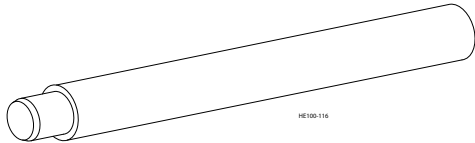

Figure 23 - Head Removal Tool
- Head Removal Tool (HRT), part number LL121191. (See Figure 23.)